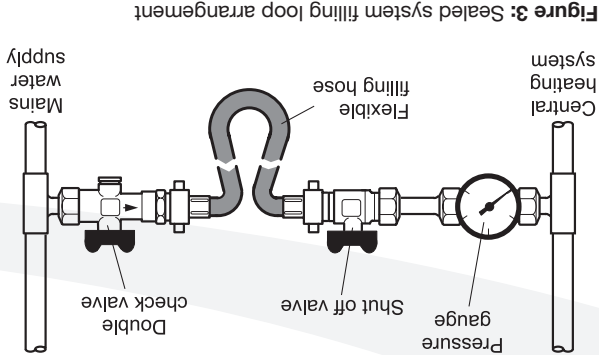

Figure 3: Sealed system filling loop arrangement
2. Ensure the flexible filling loop (see Figure 3) is connected and that the shut off valve connecting it to the boiler is open and the double check valve at the front is closed. (A valve is open when the operating lever is in line with the valve, and closed when it is at right angles to it).